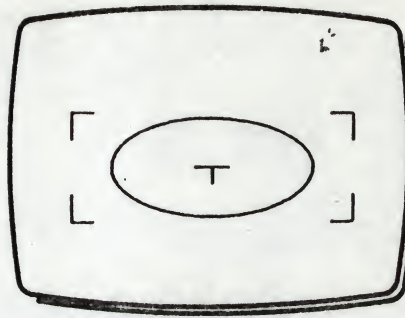

Fig 2
- 7 Release R when the frame is proportioned as in Fig 2.